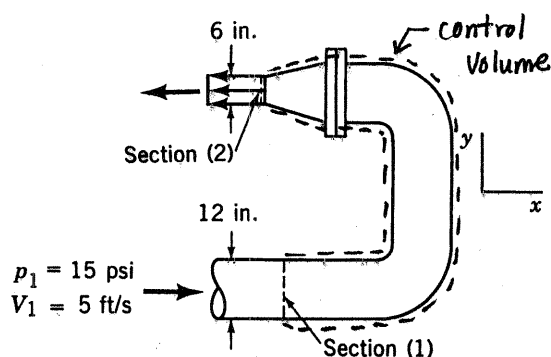

FIGURE P5.97
5.97 For the 180° elbow and nozzle flow shown in Fig. P5.97, determine the loss in available energy from section (1) to section (2). How much additional available energy is lost from section (2) to where the water comes to rest?